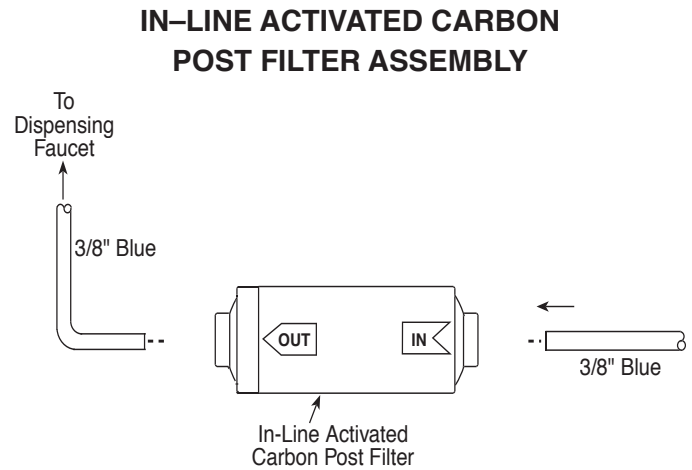

Figure 5
4. Firmly reconnect the polytubes to the new Post Filter. (Refer to Fig. 5.) Make sure the tubing is pressed all the way in to create a pressure tight connection.